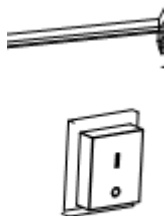

Figure.2
- Turn the power switch to position I and check that the fan starts running correctly. (Figure. 2)